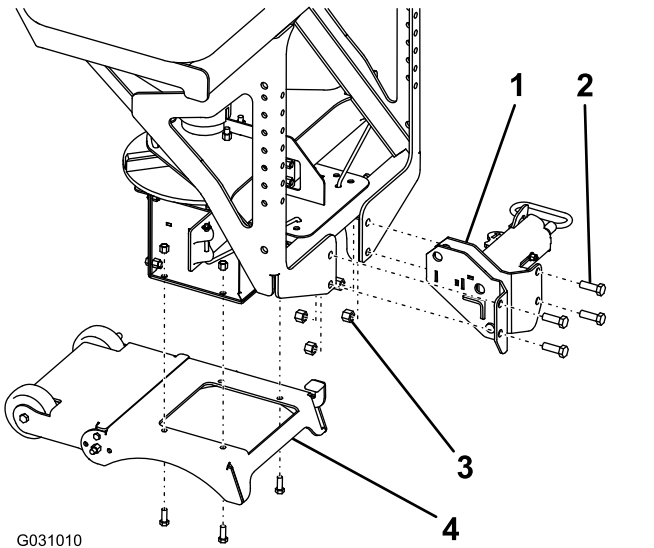

Figure 8
- Mount the RT3 attachment to the spreader using 4 bolts (1/2 inch) and locknuts (1/2 inch) and torque the bolts to 76 Nm (56 ft-lb) as shown in Figure 8.
- Mount the leg assembly to the spreader using the 4 existing bolts (3/8 inch) and locknuts (3/8 inch) and torque the bolts to 27 Nm (19.7 ft-lb) as shown in Figure 8.